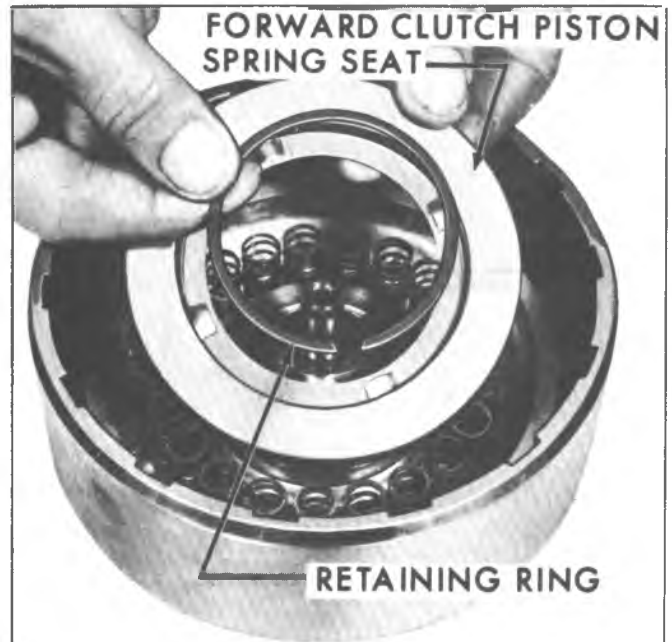

Fig. 7A-79B--Installing Direct Clutch Springs, Spring Seat and Retaining Ring
4. Install seventeen (17) clutch return coil springs.
5. Install piston return spring seat. Compress spring seat with tool J-23327 and install retaining ring (fig. 7A-79B).